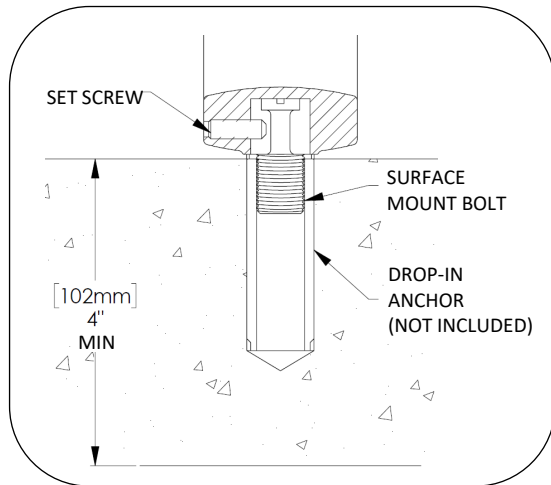

Fig. 2 – Surface mount bolt section view
10. Install set screws as shown in Fig. 2.